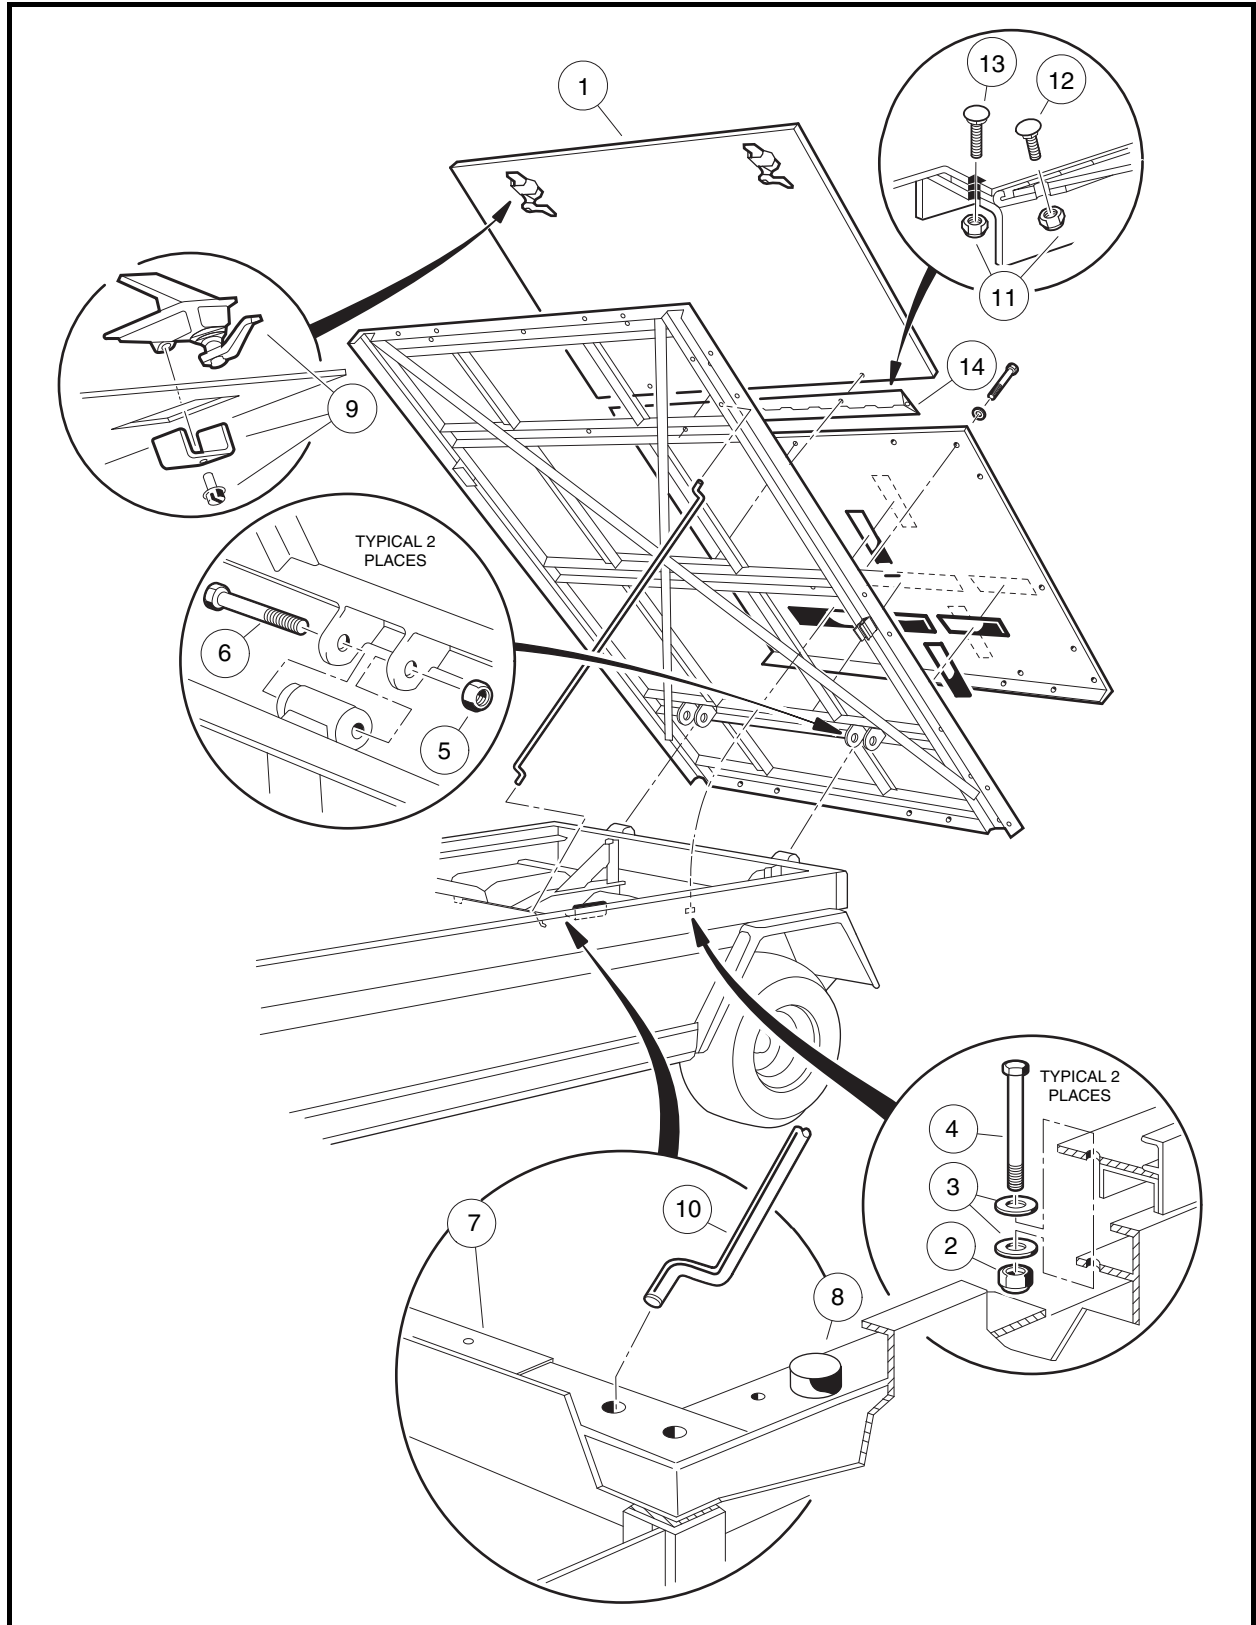
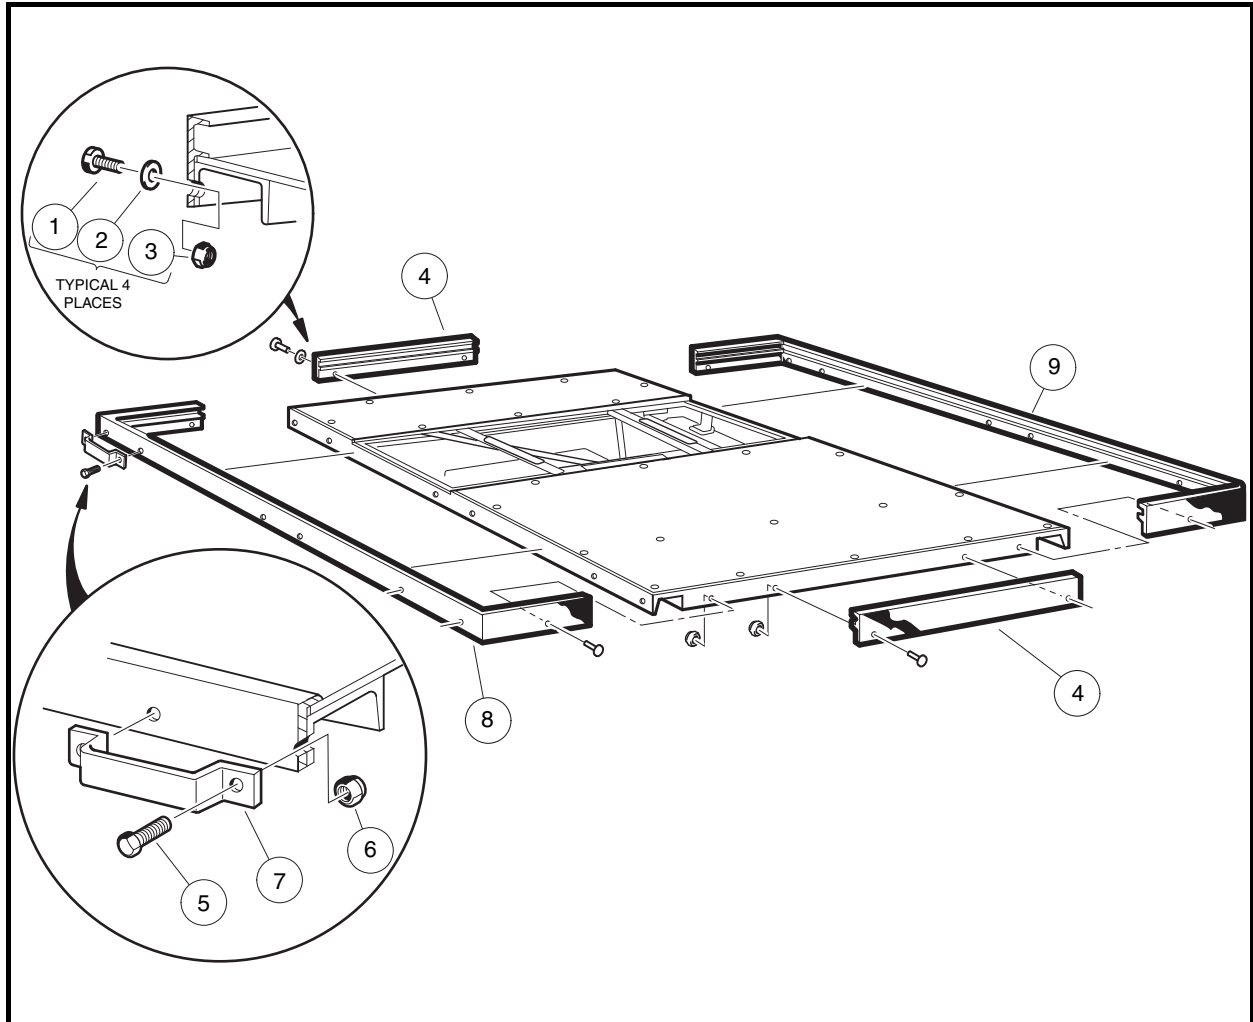

Figure 4-4 Flat Bed – Turf 6 and Carryall 6 (without Side Doors)
Figure 4-6 Flat Bed Trim – Turf 6 and Carryall 6 (without Side Doors)
1. Open access door in bed (1) and remove two lock nuts (2), four flat washers (3), and two 1/4 x 4 bolts (4). Close and latch access door (**Figure 4-4, Page 4-10**).
2. Remove two lock nuts (5) from left and right flat bed hinge assemblies.
3. Remove two 3/8 x 3 -3/8 bolts (6). Lift bed from vehicle.
1. Place bed on vehicle with bed front edge 1 inch (2.5 cm) from seat back support panel (7) and open access door (1) (**Figure 4-4, Page 4-10**).
2. Raise rear edge of bed 6 inches from vehicle frame and position bed so the left and right hand bed supports are resting on the support bumpers (8).
4. Start the bolts (6) into left and right hinge assemblies. It may be necessary to use an alignment tool to align holes in hinge bracket with steel bushing in hinge assembly.
5. Install a nylon lock nut (5) on each bolt and tighten to 14 ft-lb (18.9 N·m).
6. Install 1/4 x 4 bolts (4), flat washers (3), and lock nuts (2) through the bed frame and vehicle frame on both sides of vehicle. Tighten to 75 in-lb (8 N·m) (**Figure 4-4, Page 4-10**).
7. Close access door (1) and secure with latches (9).
1. Release access door latches (9) and open access door (1) (**Figure 4-4, Page 4-10**).
2. Remove bolts (4), flat washers (3), and lock nuts (2) that secure bed to vehicle frame.
3. Raise bed and place prop rod (10) in bed support frame.
4. Remove four bolts (1), flat washers (2), and lock nuts (3) from trim strips (4) on front and rear edge of bed (**Figure 4-6, Page 4-13**). Remove trim strips from bed.
5. Remove two bolts (5) and lock nuts (6) from the bracket (7) on driver-side trim strip (8). Remove bracket from bed.
7. Repeat steps 5 and 6 to remove passenger side trim strip (9) and brackets.
2. Tighten nuts (3 and 6) to 8 ft-lb. (10.8 N·m) (**Figure 4-6, Page 4-13**).
1. Raise levers on left and right hand door latches (9), rotate them 180 degrees and open access door (1) (**Figure 4-4, Page 4-10**).
2. Remove three lock nuts (11) and bolts (12) from access door side of hinge (14).
3. Remove access door (1) from cargo bed.
1. Install access door (1) in the reverse order of removal (**Figure 4-4, Page 4-10**).
2. Tighten nuts (11) to 8 ft-lb (10.8 N·m).
3. Close access door (1) and secure both door latches (9).